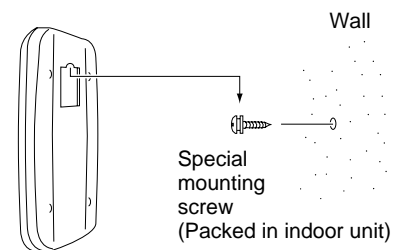

Fig. 6
- 3) After confirming correct operation, use a screwdriver to screw the supplied special mounting screw into the wall. (Fig. 6)
- 3) After confirming correct operation, use a screwdriver to screw the mounting screw into the wall. (Fig. 6)